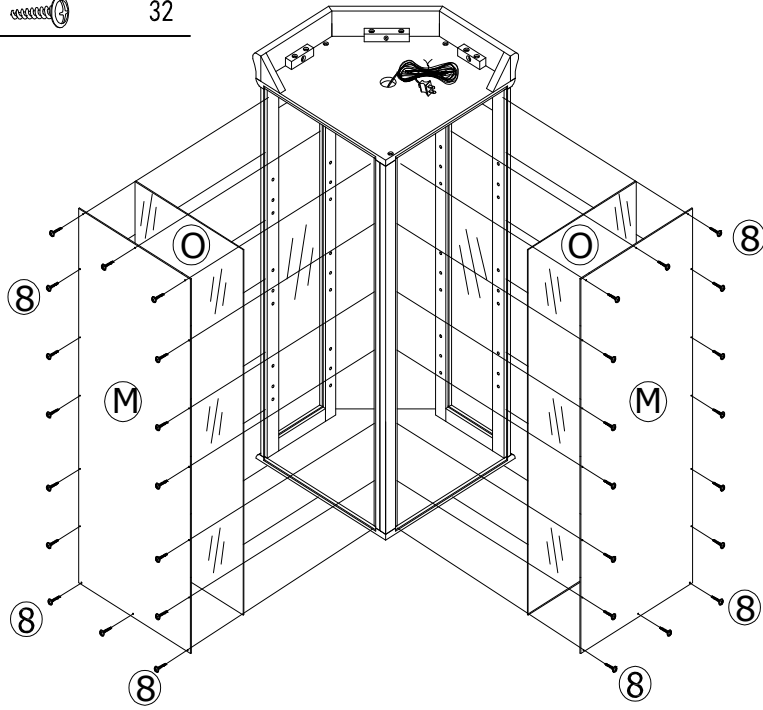

Figure 4
Insert round head screws (8) through the holes on upper back panels (M) and tighten into corresponding holes on rear edges of the unit as shown on figure 4.